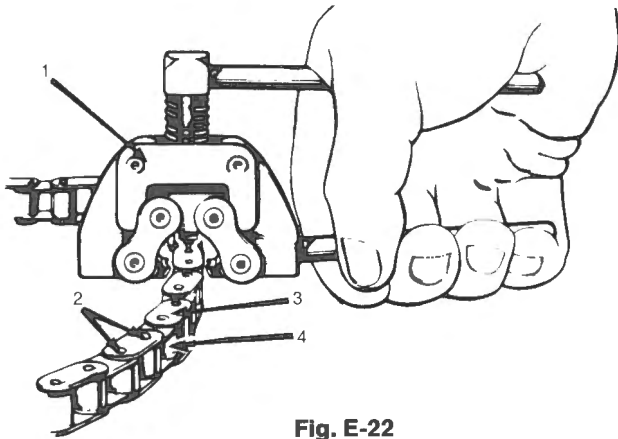

Fig. E-22
- (a) Open the jaws of the tool by squeezing the two handles together, place it over the chain at one bearing pin and close the jaws against the roller by releasing the handles. Fig. E-22.